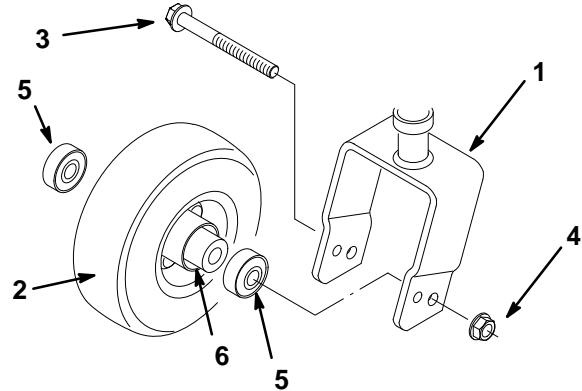

Figure 24
- Remove locknut and capscrew that secure the castor wheel assembly in the castor fork (Fig. 24).
- Remove the castor wheel from the fork (Fig. 24).
- Remove the outer bearing from wheel hub and allow the bearing spacer to fall out (Fig. 24).
- Remove the other outer bearing (Fig. 24).